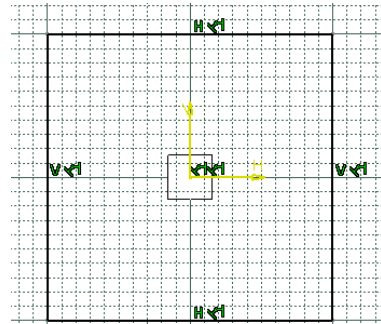

Figure 3-54 The sketch after drawing the centered rectangle
- Move the cursor to a location whose coordinates are close to 100,100 and click when 200 is displayed in the **Height** and **Width** edit boxes in the **Sketch tools** toolbar; a rectangle is drawn, as shown in Figure 3-54. Now, click anywhere in the geometry area to make sure that the rectangle is no more selected.